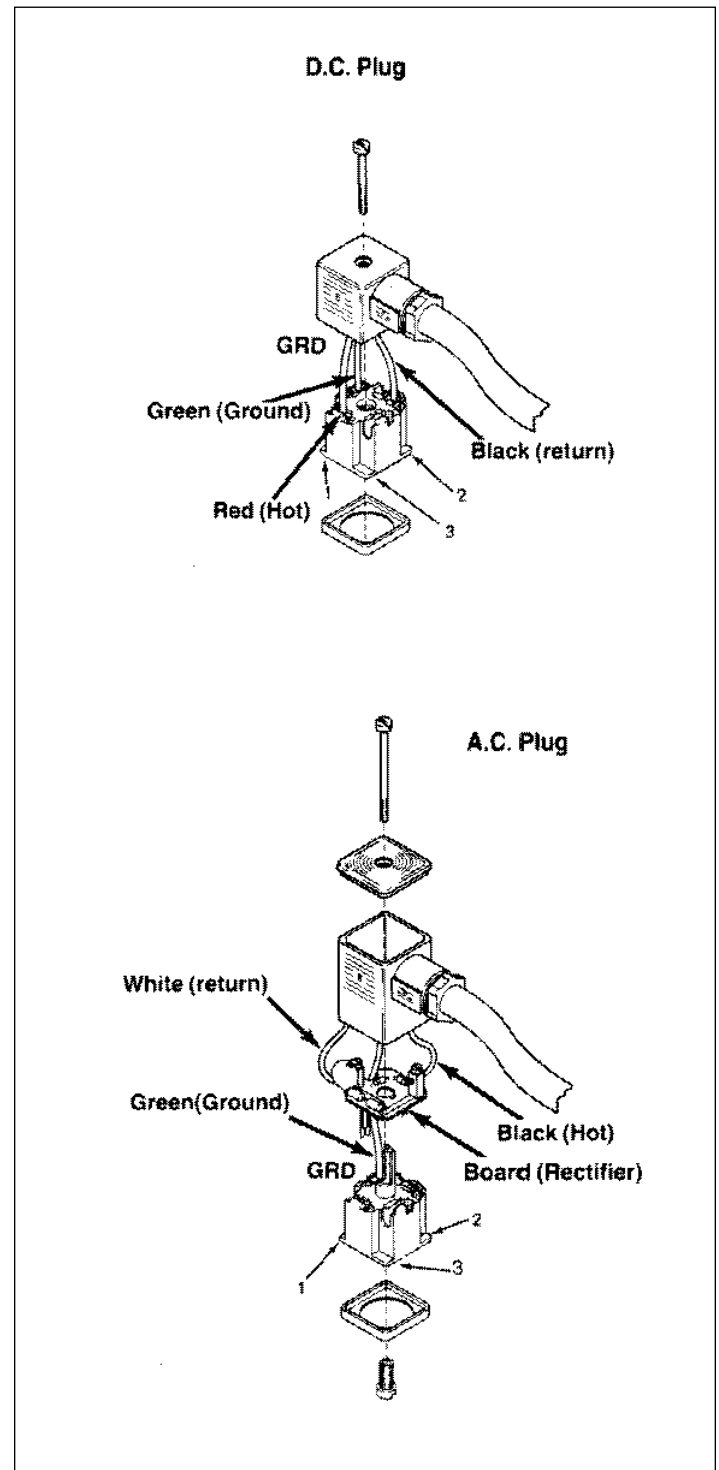

Figure 2
1. Disassemble the plug. See figure 2.
2. Strip wire insulation 1/4" back. Insert wires through plug body. Insert wires into terminals and secure with screws. Check figure 2 for A.C. and D.C. plug wiring.